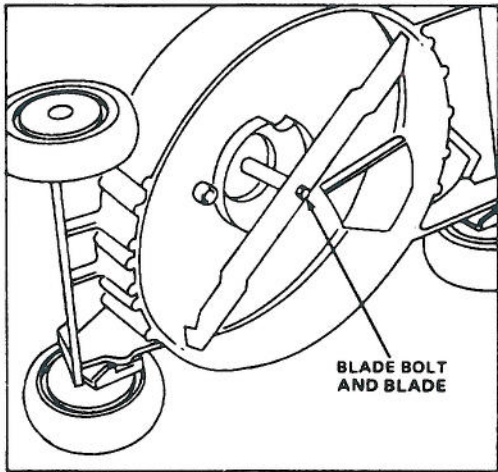

Figure 19
3. Tip mower on its right side (Fig. 19). Avoid rotating blade. Starting problems may result.
5. **REMOVING BLADE** — Grasp end of blade using a rag or thickly padded glove. Remove blade bolt and blade (Fig. 19).